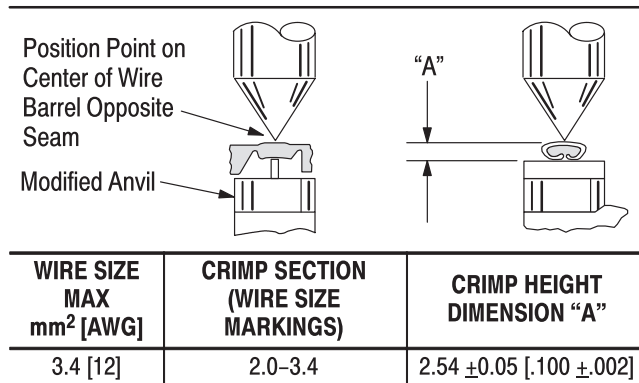

Figure 3
This tool is provided with a crimp adjustment feature. Initially, the crimp height should be verified as specified in Figure 3. Refer to Section 5, CRIMP HEIGHT INSPECTION, and Section 6, CRIMP HEIGHT ADJUSTMENT, to verify crimp height before using the tool to crimp desired contacts and wire sizes.
3. Using a crimp height comparator, measure the wire barrel crimp height listed in Figure 3. If the crimp height conforms to that shown in the table, the tool is considered dimensionally correct. If not, the tool must be adjusted. Refer to Section 6, CRIMP HEIGHT ADJUSTMENT.